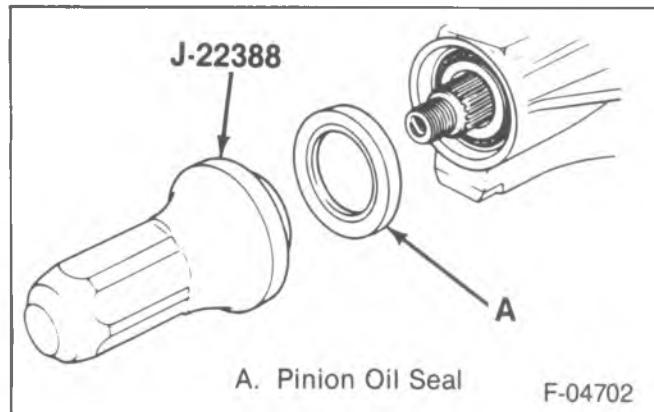
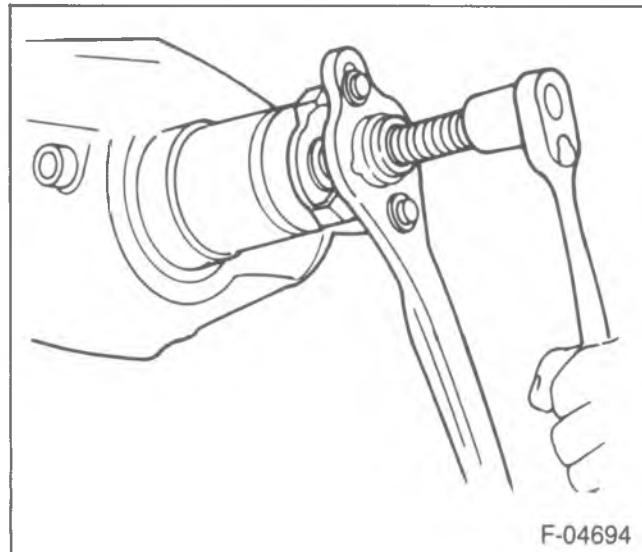

Figure 31—Installing the Pinion Oil Seal
Figure 32—Installing the Pinion Flange
- 1. The pinion inner bearing (5) using J-8609-01.
- 2. A new collapsible spacer (4).
- 3. Pinion (7) to the axle housing.
- 4. Outer pinion bearing (39) onto the pinion using J-5590.
- 5. Pinion oil seal (38) using J-22388 (figure 31).
- 6. Pinion flange (37) to the pinion by tapping it with a rawhide hammer until a few threads show through the pinion flange.
- 7. Pinion washer (36) and a new nut (35) while holding the pinion flange with J-8614-01 (figure 32).